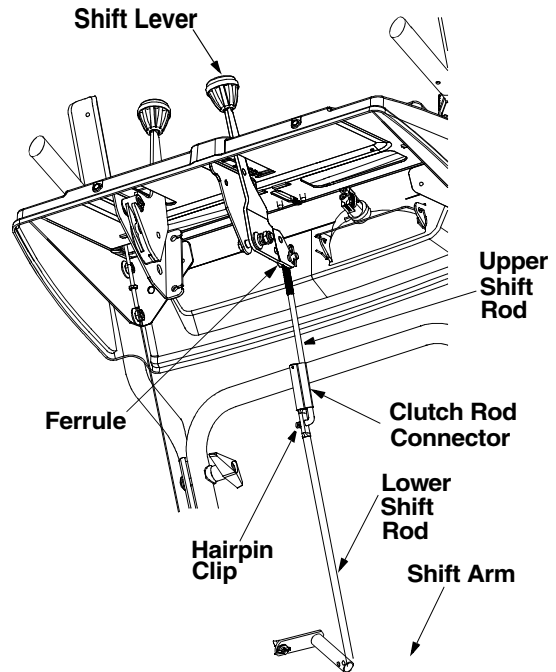

Figure 10
- Rotate the ferrule up or down on the shift rod as necessary until the ferrule lines up with the upper hole in the shift lever. See Figure 10.
- Reinstall the hairpin clip and the washer. See Figure 10.